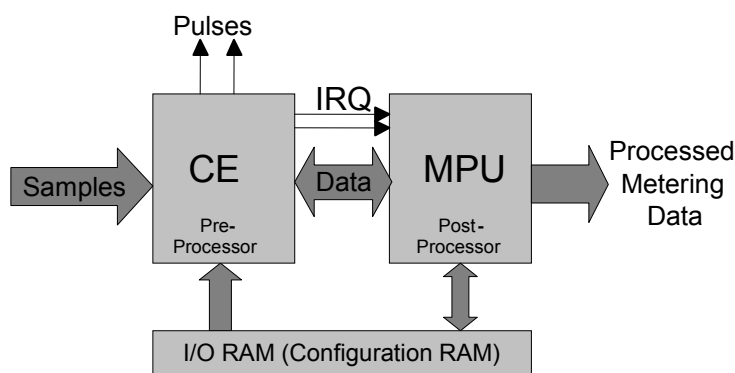

Figure 26: MPU/CE Data Flow
The data flow between the Compute Engine (CE) and the MPU is shown in Figure 26. In a typical application, the 32-bit CE sequentially processes the samples from the voltage inputs on pins IA, VA, IB and VB, performing calculations to measure active power (Wh), reactive power (VARh), A2h and V2h for four-quadrant metering. These measurements are then accessed by the MPU, processed further and output using the peripheral devices available to the MPU.
Figure 26 illustrates the CE/MPU data flow.